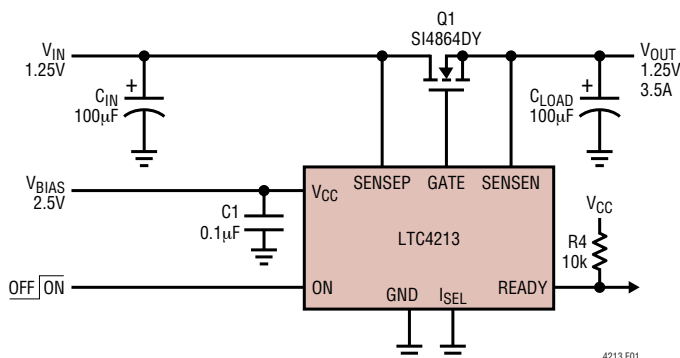
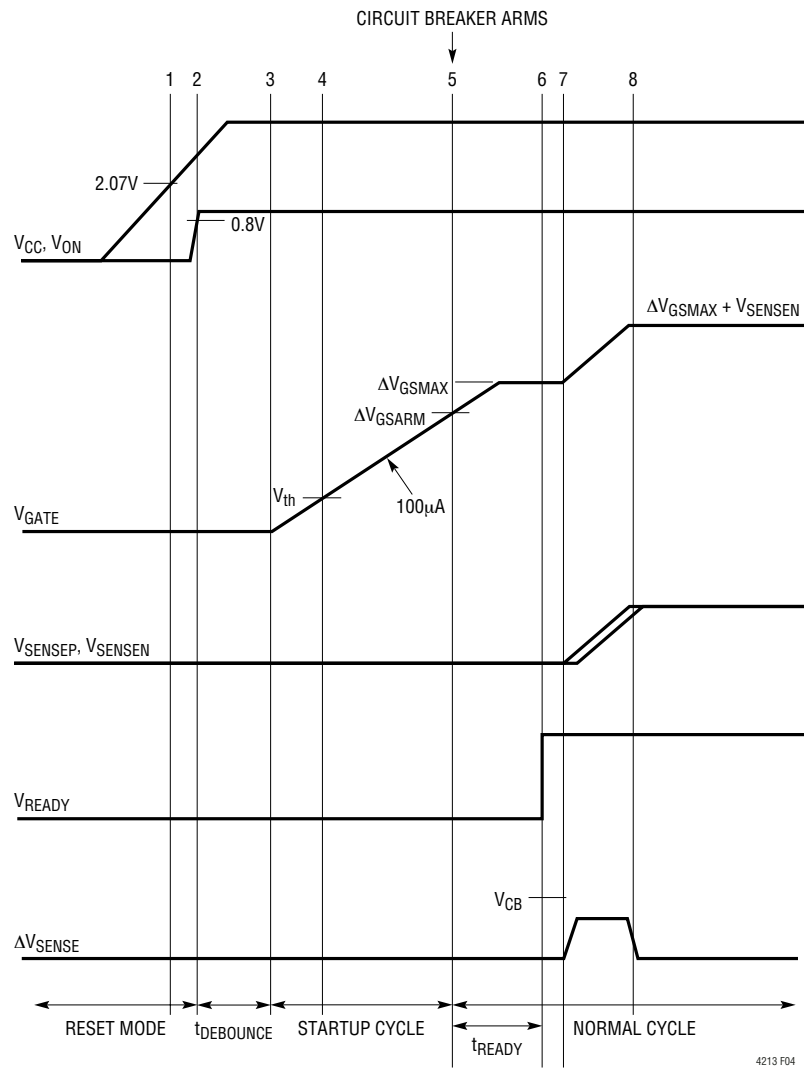
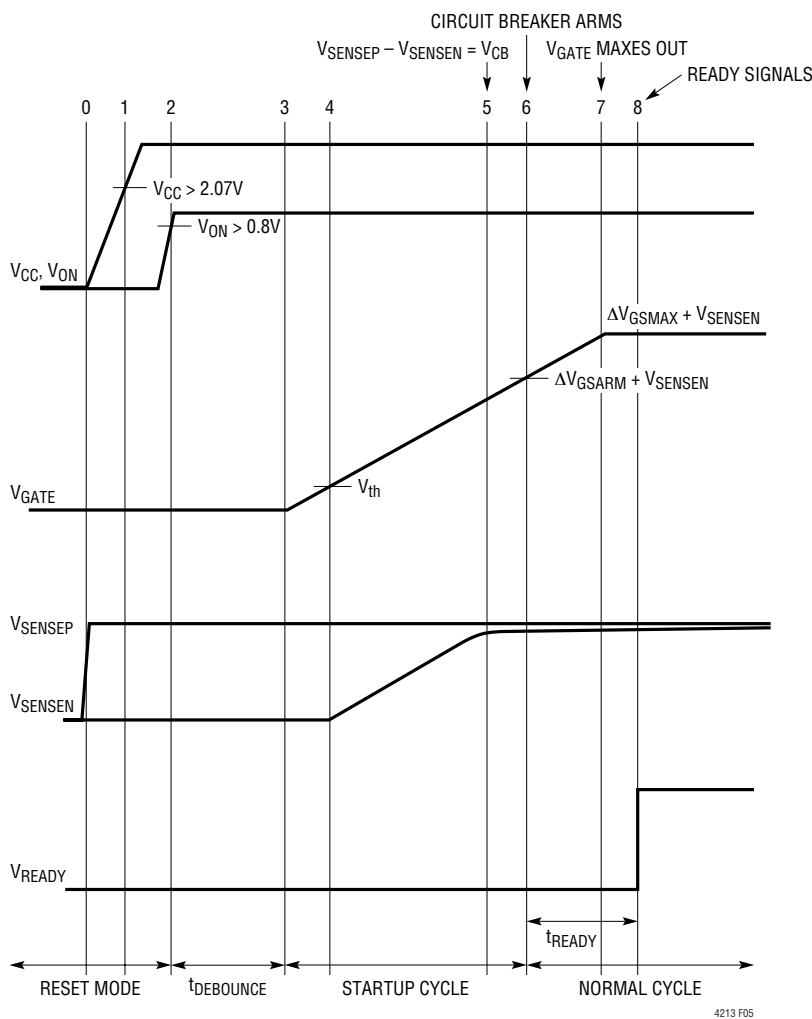

Figure 1. LTC4213 Electronic Circuit Breaker Application
Figure 4. Load Supply Power-Up After Circuit Breaker Armed
Figure 5. Load Supply Power-Up Before V_{CC}
Figure 1 shows an electronic circuit breaker (ECB) application. An external auxiliary supply biases the V_{CC} pin and the internal circuitry. A V_{IN} load supply powers the load via an external MOSFET. The SENSEP and SENSEN pins
Figure 4 shows a normal power-up sequence for the circuit in Figure 1 where the V_{IN} load supply power-up after circuit breaker is armed. V_{CC} is first powered up by an auxiliary bias supply. V_{CC} rises above 2.07V at time point 1. V_{ON} exceeds 0.8V at time point 2. After a 60 μs debounce delay, the GATE pin starts ramping up at time point 3. The external MOSFET starts conducting at time point 4. At time point 5, V_{GATE} exceed $\Delta V_{\text{GS ARM}}$ and the circuit breaker is armed. After 50 μs (t_{READY} delay), READY pulls high by an external resistor at time point 6. READY signals the V_{IN} load supply module to start its ramp. The load supply begins soft-start ramp at time point 7. The load supply ramp rate must be slow to prevent circuit breaker tripping as in equation (8).
Referring back to Figure 1, the V_{IN} load supply can also be powered up before V_{CC} . Figure 5 shows the timing diagram with the V_{IN} load supply active initially. An internal circuit ensures that the GATE pin is held low. At time point 1, V_{CC} clears UVLO and at time point 2, ON clears 0.8V. 60 μ s later at time point 3, the GATE is ramped up with 100 μ A. At time point 4, GATE reaches the external MOSFET threshold V_{TH} and V_{OUT} starts to ramp up. At time point 5, V_{SENSE} is near its peak. At time point 6, the circuit breaker is armed and the circuit breaker can trip if $\Delta V_{SENSE} > V_{CB}$.
There is no current limit monitoring during output charging for the figure 5 power-up sequence where the load supply is powered up before V_{CC} . This is because the GATE voltage is below ΔV_{GSARM} and the MOSFET may not reach the specified $R_{DS(ON)}$. The V_{IN} load supply should have sufficient capability to handle the inrush as the output charges up. For proper startup, the final load at time